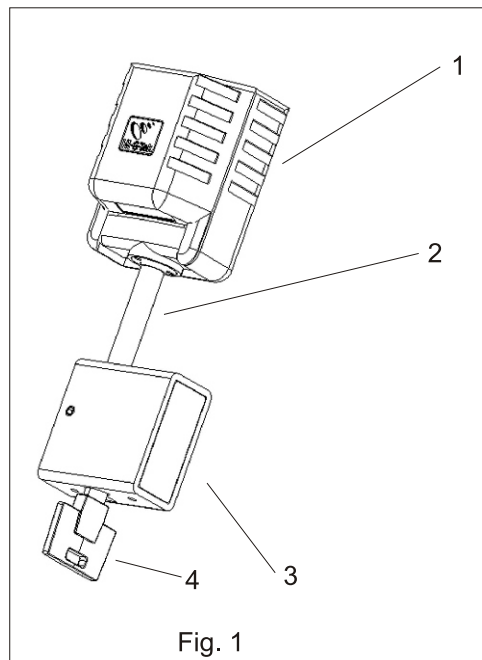

Fig. 1
This installation guide covers the installation of HI-G-TEK's Locking seals family of products. The Lock Seal (Fig.1) contains electronic module (1), locking pin (2) and locking unit (3) with a key (4).